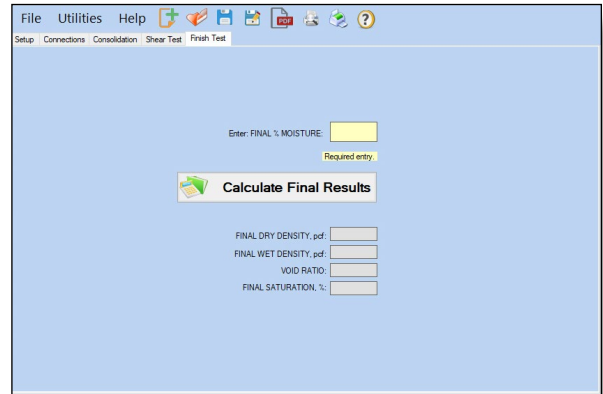

Figure 17: Finish Test Tab
11. Enter the final percent moisture in the **Finish Test** tab (Figure 17) then click **Calculate Final Results** to generate the final test calculations. The test data will be saved, and the final values will be displayed in this tab.